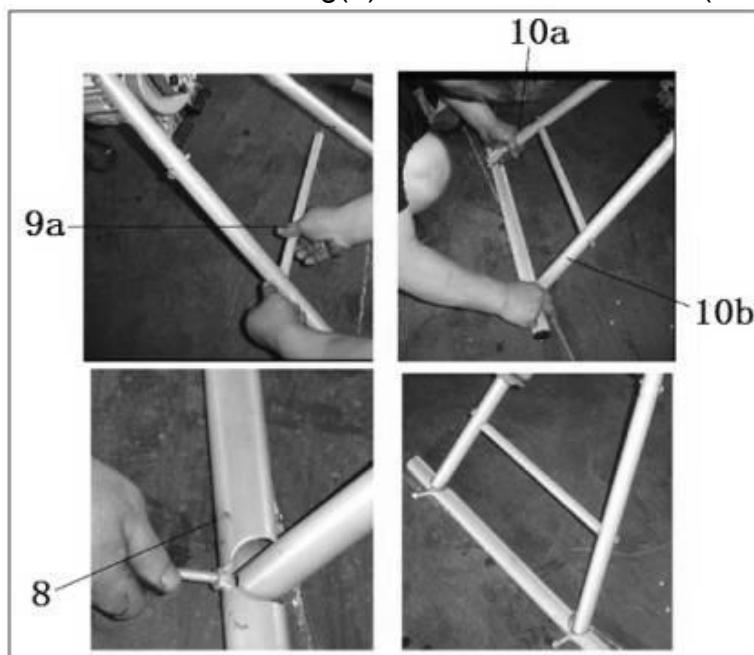

fig.3
- b) Connect horizontal shaft (9a) to front stand (10a&10b) with screws, then assemble horizontal leg (8) and fix it to front stand (10a&10b) by bolts (fig.3).